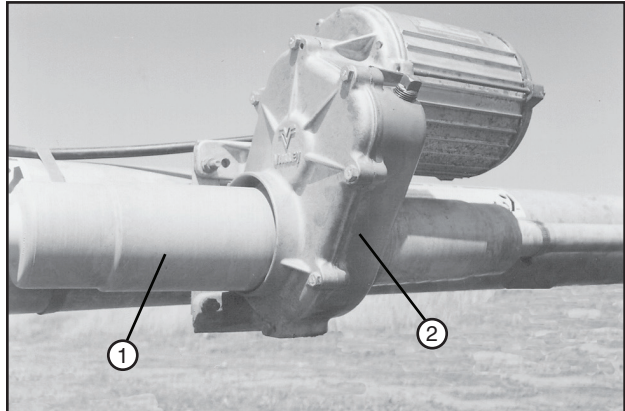

Figure 68-1 1. U-Joint Shield 2. Gearbox
7. Slide the U-joint shield over the U-joint and position approximately 1/4 in away from touching the gearbox. Secure the U-joint shield to the drive shaft shield with a clamp. See figure 68-1.